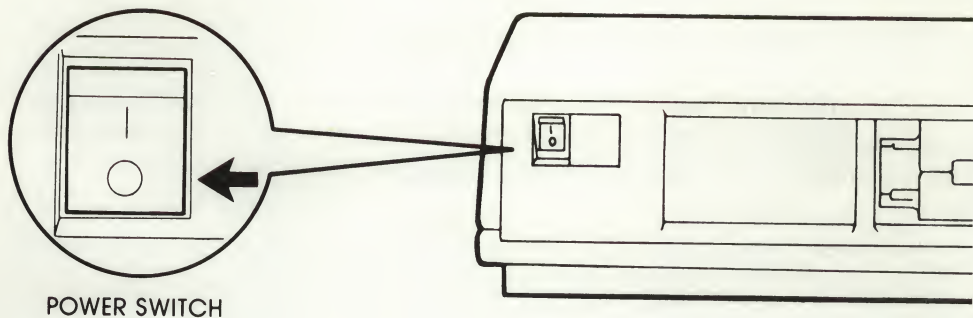

Figure 2 Press System Unit Power Switch On
- 3 Press the system unit power switch to the on (1) position (see Figure 2). If the power switch is already on, turn it off, wait four seconds, then turn it on again.